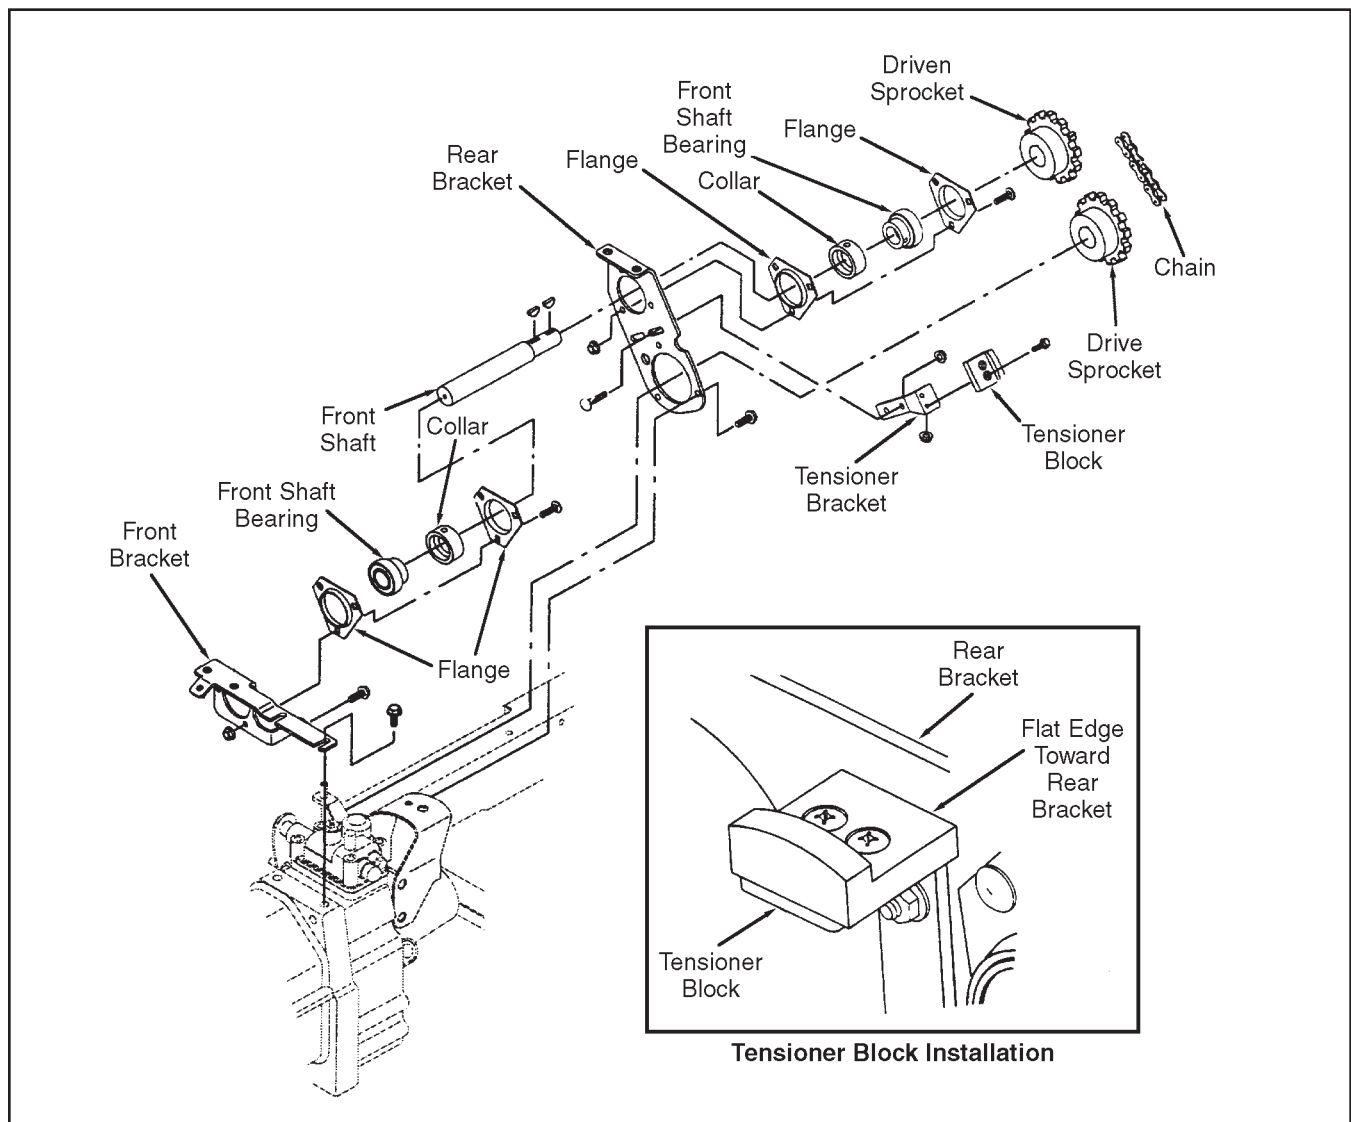

Figure 12C-5. Drive Shaft, Sprockets, Chain and Tensioner
8. Remove the removable link from the chain and wrap the chain around the sprockets (see Figure 12C-6).